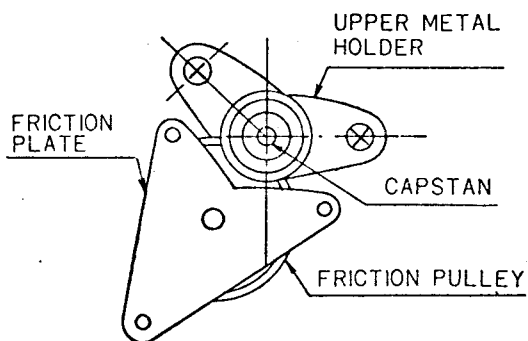

Fig. 21
2. Adjustment of Current Consumption at Upper Metal Holder (Fig. 21)